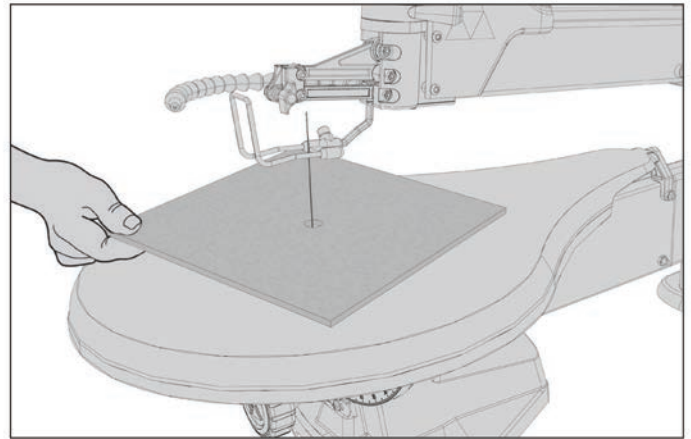

FIG. 9
The material hold-down must be beveled when the table is beveled. To bevel the material hold-down, loosen the hex screw (E) Fig. 9 and bevel the material hold-down until it is parallel to the table. Retighten the material hold-down before cutting.
4. Leaving the blade held in place by the bottom blade clamp, lift the top arm of the scroll saw, as shown in Figure 9. Thread the saw blade through the pilot hole in your workpiece and reattach the blade by tightening the top thumbscrew.